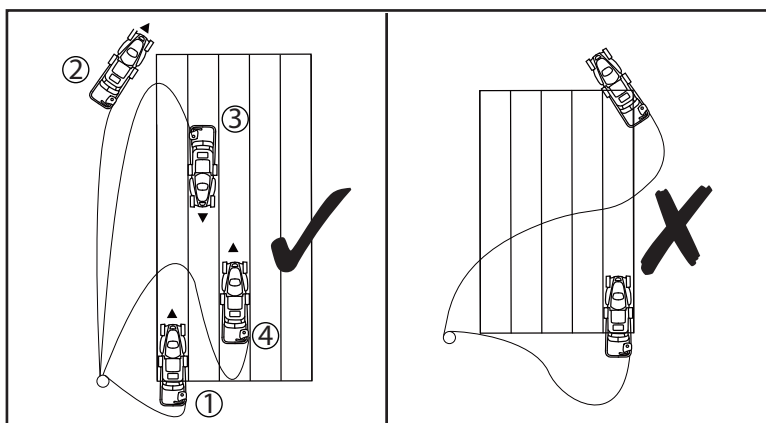

Fig. 12
- To avoid cutting the power cord (5) and to collect grass clippings correctly, mow away from the mains and avoid twisting the power cord (5) (Fig. 12).